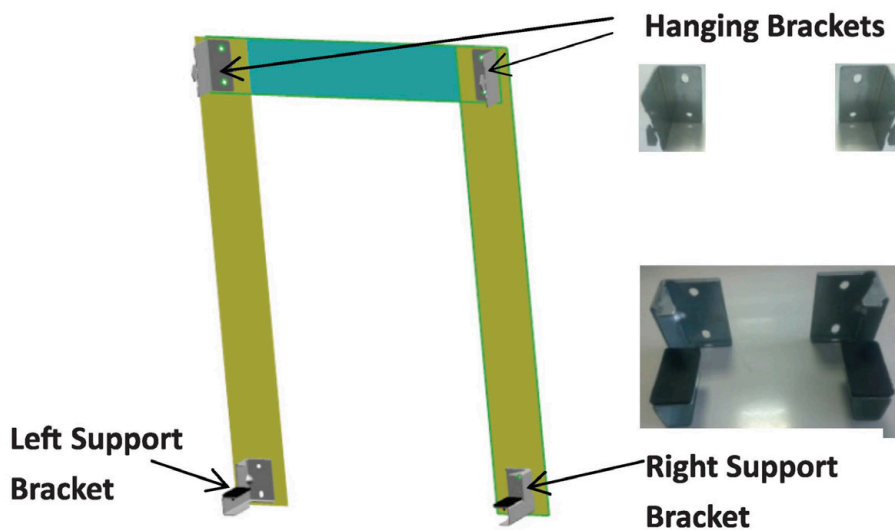

Figure 7 - Positioning of the hanging brackets and the Left & Right support brackets.
Step 2: Fix the wall hanging brackets and both left/right support brackets to the wall securely in accordance with the template (Fig. 7).